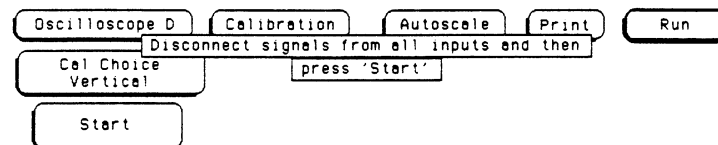

Figure 4-2. Vertical Cal Choice Screen
- c. From **VERTICAL** cal choice screen shown in figure 4-2, touch **Start**. Look for prompt on screen indicating calibration is completed.